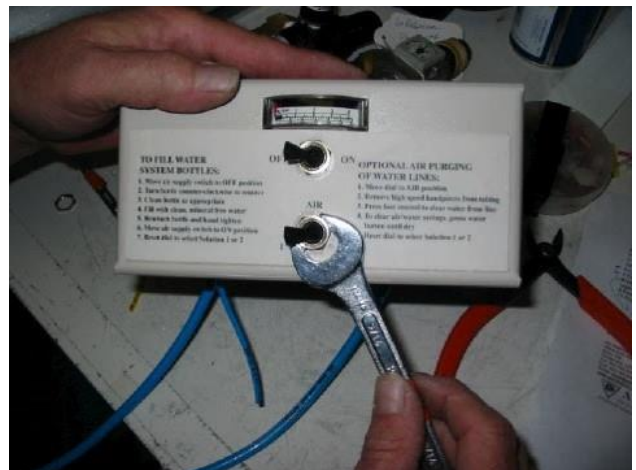

Fig. 3
7. Using 9/16" socket or wrench, unscrew the nut holding existing valve in place and pull the valve down so it will be easier to access the tubing. (Fig. 3)